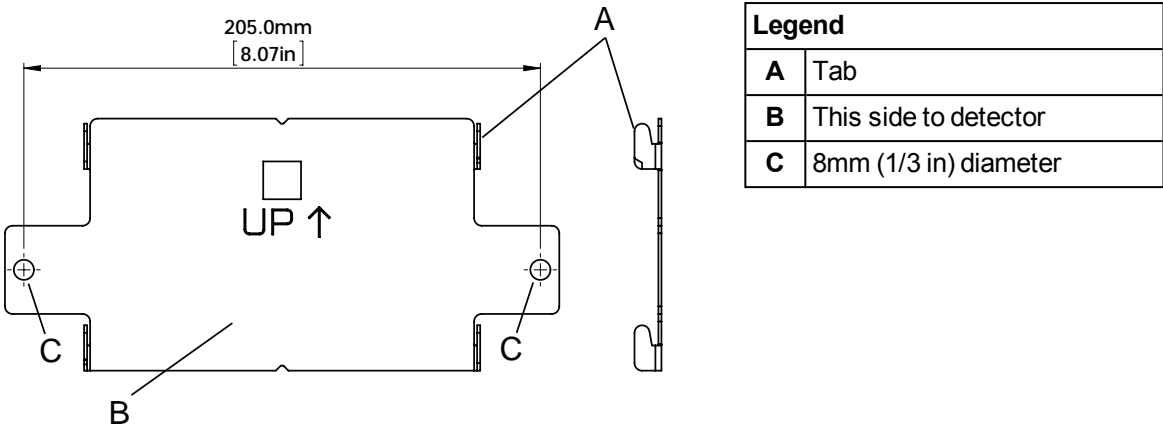

Figure 6-3: Hole Dimensions and Orientation of Mounting Bracket
- Place the mounting bracket onto the surface and mark out the two mounting screw holes. Refer to Figure 6-3 for dimensions. Use a spirit level to ensure the bracket is level.